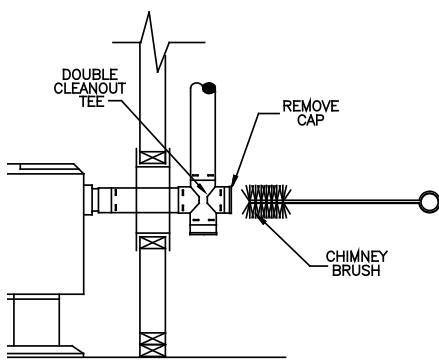

Figure 14
C. Connect a Pipe Adapter and Pipe Section together then seal connection to rear exhaust outlet. Attach a Single Tee with Clean out adapter or a Double Tee with Clean-Out Adapter, and proceed attaching Pipe Sections up the wall. Installing a Double Tee with Cleanout Adapter on the exterior of wall, allows brushing of the Horizontal Vent run through to appliance (**Figure 14**).